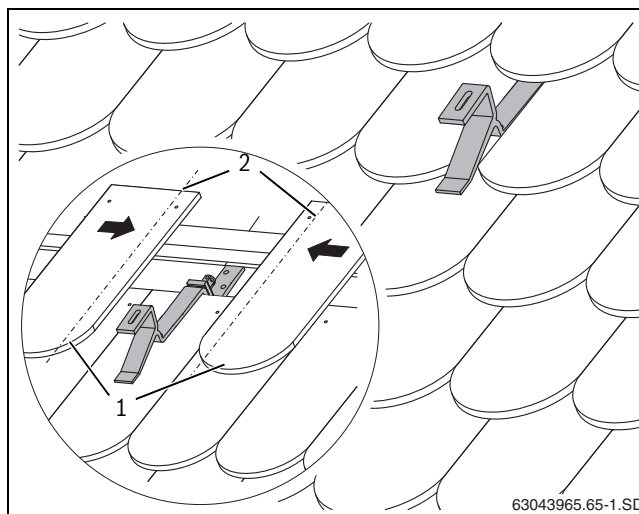

Fig. 19 Roof hook with covered roof
- Cut adjacent flat tiles (Fig. 19, [1]) (dotted line, Fig. 19, [2]).